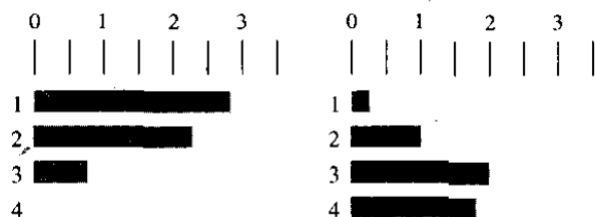

Fig. 3. Distribution graph for multiplexer and ALU
**NOTE** Further explanation would lead to the first example of Force-Direct Scheduling calculations, the example refers to Initial Sequencing Graph. It's time distribution graph for the components in the exercise (Figure 3).